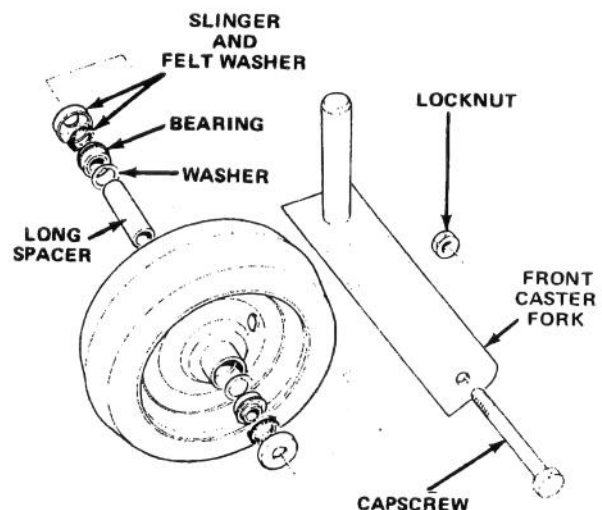

Figure 28
1. Remove capscrew and locknut holding front caster wheel between caster fork (Fig. 28).
2. Pull slingers and felt washers off both bearings (Fig. 28).
3. Pry old bearings out of wheel hub (Fig. 28). Also remove the washers and long spacer from inside the wheel hub. Clean grease and dirt out of wheel hub.